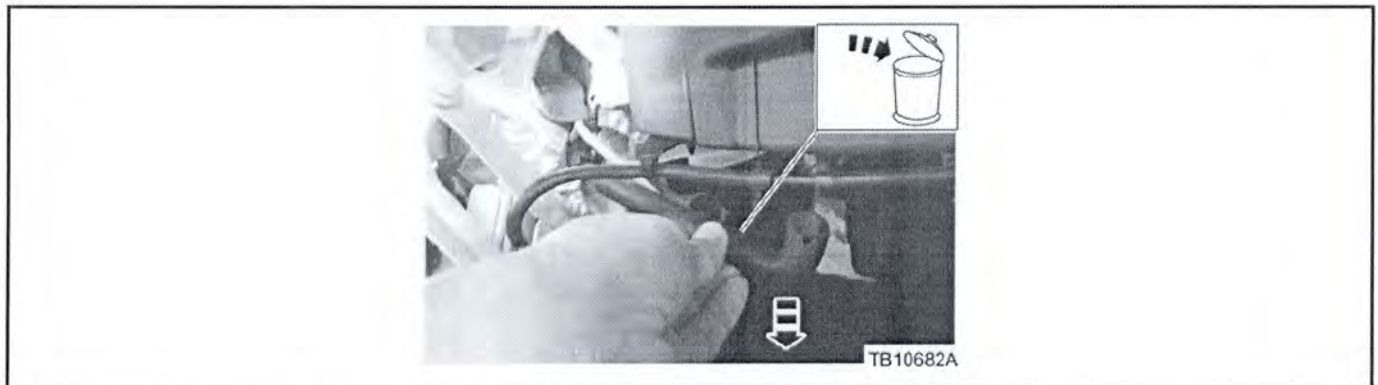

Figure 2 - Article 15-0074
5. Remove and discard the drain hose from the passenger side of the cowl panel grille by pulling the hose from the drain nozzle. (Figure 2)